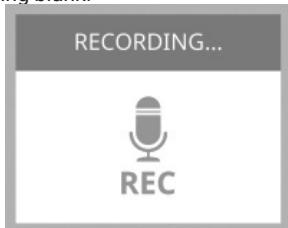

Figure 13: Recording Screen
7. The 'Recording' screen is displayed briefly per Figure 13, before going blank.